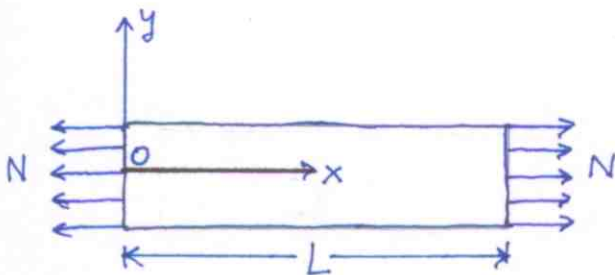

Fig. 1
1. The uniform cross section rod is subjected to uniform axial stress N at its ends, as shown (Fig. 1). The origin is restrained from rigid body motion. Determine the displacements at point (x, y, z) .